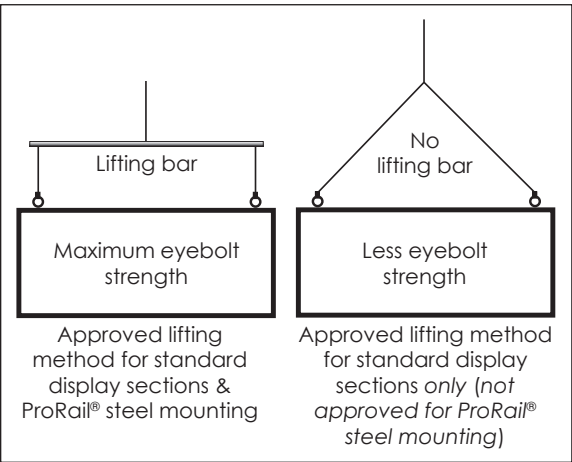
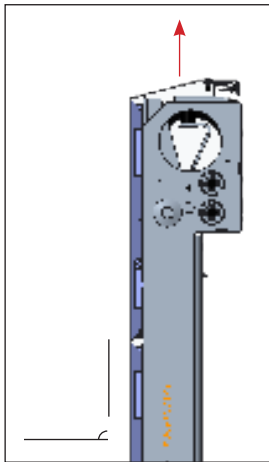

Figure 3: Lift Display
Figure 4: Lift Angle
- 1. Lift the display sections from the shipping crate using only the supplied lift eyes. A spreader beam is recommended when lifting but is required when ProRail® steel is attached. Refer to **Figure 3**, **Figure 4** and the **RTN-3020 Series Section Crate Handling Quick Guide (DD5638339)** for details.
3. Lift the display sections from the shipping crate using only the supplied lift eyes. A spreader beam is recommended when lifting but is required when ProRail® steel is attached. Refer to **Figure 3**, **Figure 4**, and the **RTN-3020 Series Section Crate Handling Quick Guide (DD5638339)** for details. Refer to **Figure 4**.